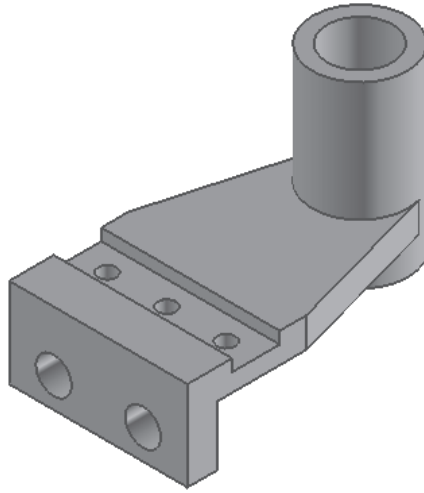

Figure 4-83 Final model for Tutorial 3
- e. Create the remaining holes in the model, refer to Figure 4-83.
1. Create the remaining features, which are holes. To create these holes, you need to extrude the sketches using the **Subtract** operations. The final model for Tutorial 3 is shown in Figure 4-83.